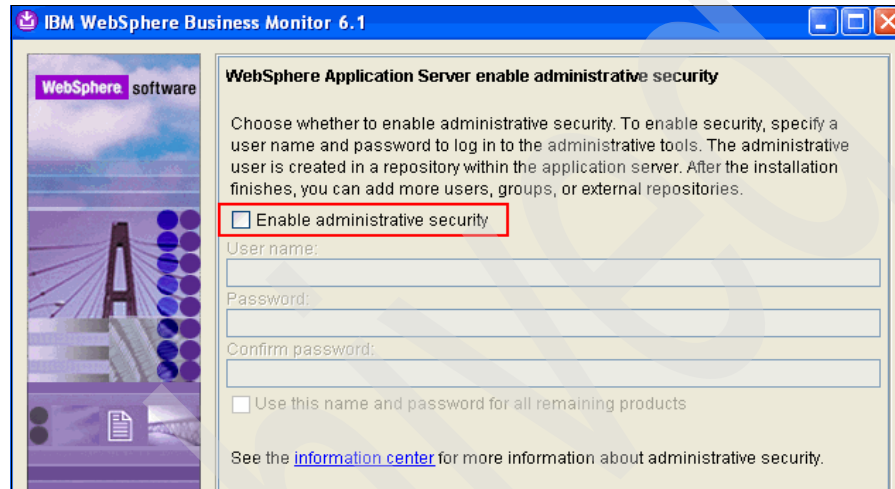

Figure 3-26 WebSphere Business Monitor installation: WebSphere Application Server enable administrative security
9. In the WebSphere Application Server enable administrative security panel (Figure 3-26), clear the **Enable administrative security** check box.